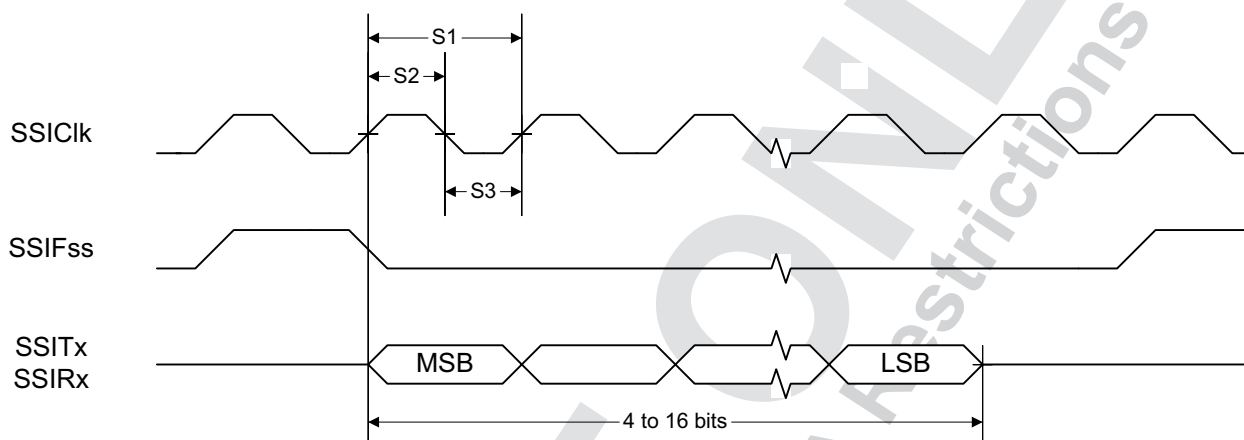

Figure 8-1. SSI Timing for TI Frame Format (FRF = 01), Single Transfer Timing Measurement
(1) Refer to SSI timing diagrams Figure 8-1, Figure 8-2, and Figure 8-3.
(2) When using the TI-provided Power driver, the SSI system clock is always 48 MHz.